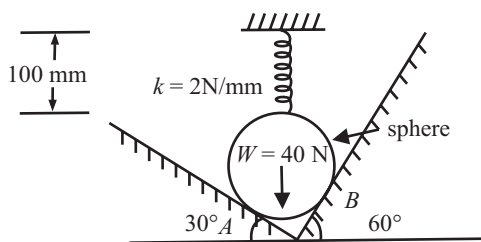

Fig 6.79
Q. 64: Fig 6.79, shows a sphere resting in a smooth V shaped groove and subjected to a spring force. The spring is compressed to a length of 100mm from its free length of 150mm. If the stiffness of spring is 2N/mm, determine the contact reactions at A and B. (MAY 02-03)